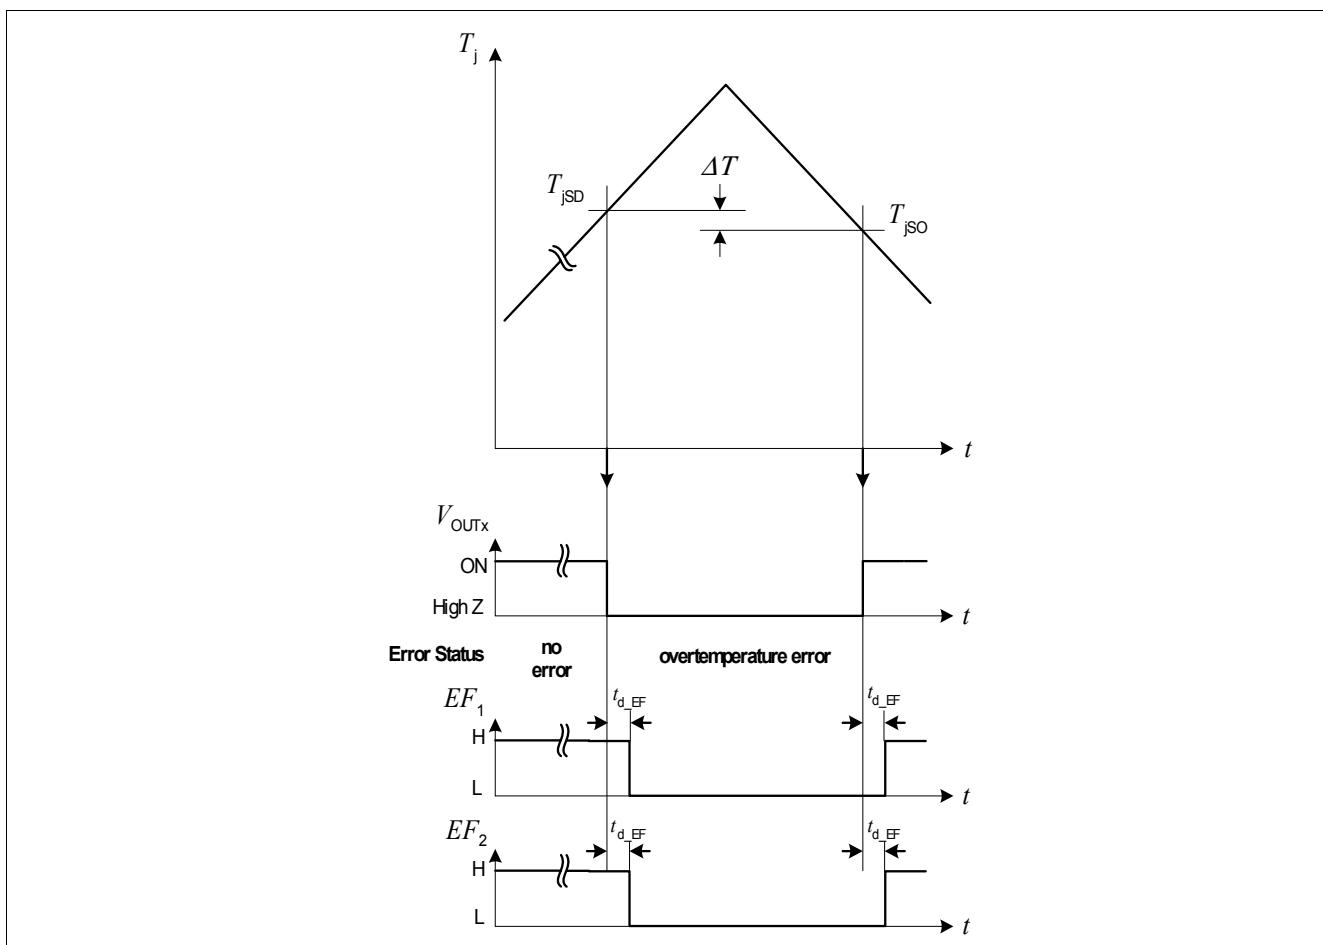

Figure 8 Overtemperature signalling
- b) **Over Temperature:** At a junction temperature higher than the thermal shutdown temperature  $T_{JSD}$  (typ. 175°C) the device enters thermal shutdown which turns-Off all four output stages simultaneously and the corresponding Error Flags are set with a delay. After cooling down to the thermal switch-on junction temp  $T_{JSO}$  the device will auto restart. A thermal toggle behavior can be observed (the Error Flags and output stages will be modulated by the thermal time constants; Figure 8).
Temperature sensors are integrated in the power stages. Each half bridge (HS+LS) is equipped with one temperature sensor. The temperature monitoring circuit compares the measured temperature to the shutdown thresholds. If one or more temperature sensors reach the shutdown temperature  $T_{jSD}$ , the overtemperature Error Flag is set to LOW. This Error Flag is not latched (i.e. if the temperature falls below the switch on threshold  $T_{jSO}$ , the Error Flag is automatically reset to HIGH again). This is shown in Figure 8 below.